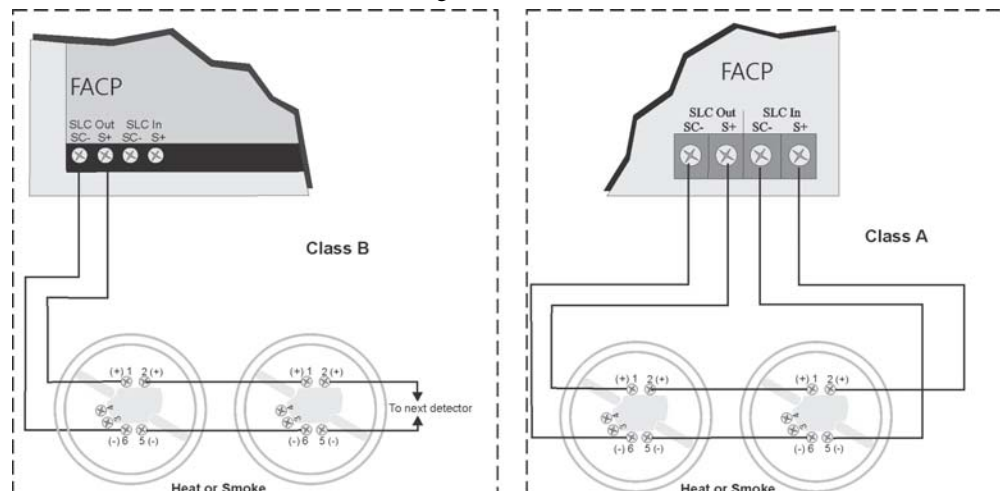

Figure 7.70 Heat or Smoke Detector Connection to the FACP (Class B)
1. Wire device bases as shown in Figure 7.70.